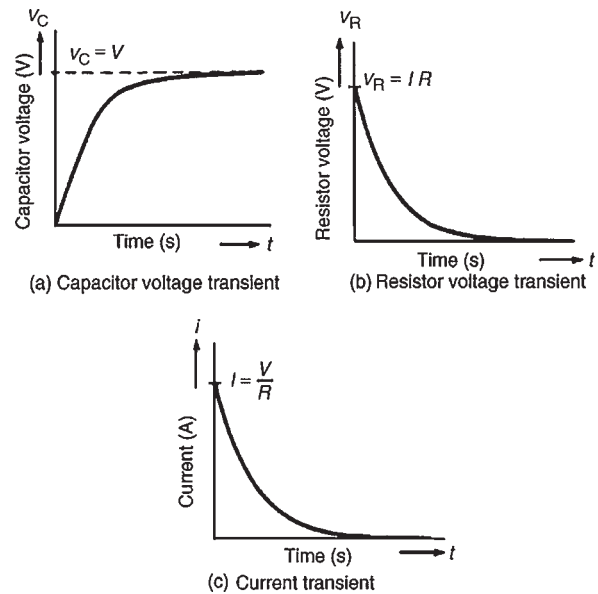

Figure 18.2
- (c) A short time later at time t_1 seconds after closing S , the capacitor is partly charged to, say, q_1 coulombs because current has been flowing. The voltage v_{C1} is now (q_1/C) volts. If the current flowing is i_1 amperes, then the voltage drop across R has fallen to $i_1 R$ volts. Thus, equation (2) is now $V = (q_1/C) + i_1 R$.
- (e) Ultimately, a few seconds after closing S , (i.e. at the final or **steady-state** condition), the capacitor is fully charged to, say, Q coulombs, current no longer flows, i.e. $i = 0$, and hence $v_R = iR = 0$. It follows from equation (1) that $v_C = V$.
- (f) Curves showing the changes in v_C , v_R and i with time are shown in Fig. 18.2.
- (a) If a constant d.c. voltage is applied to a series connected $C-R$ circuit, a transient curve of capacitor voltage v_C is as shown in Fig. 18.2(a).
The transient curves shown in Fig. 18.2 have mathematical equations, obtained by solving the differential equations representing the circuit. The equations of the curves are: